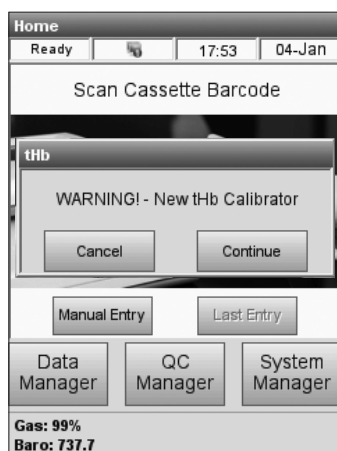

Fig. 7-5 New Calibrator
3. A warning will be displayed the first time a new tHb Calibrator lot is used (Fig. 7-5). Press **<Continue>**.